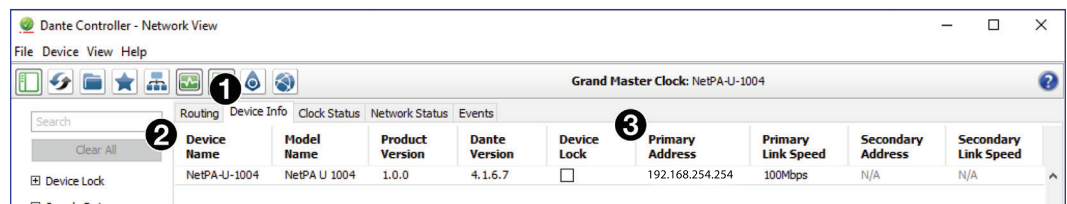

Figure 88. Device Info Page
2. From the (**Select a Dante Device..**) drop-down list, select the name of the desired NetPA Ultra Series amplifier (see figure 88, ①).
3. On the Device View screen, select the **Transmit** tab (②).
4. Click on the name of the receiver to be renamed. The name becomes a text box with a cursor (③).
2. On the Dante Controller-Network View screen, click the **Device Info** tab (see figure 88, ①).
3. On the Device Info page, locate the name of the NetPA Ultra Series in the Device Name column (②). The IP address is located in the Primary Address column (③). In the example, the IP address for the connected NetPA Ultra Series is 192.168.254.254.